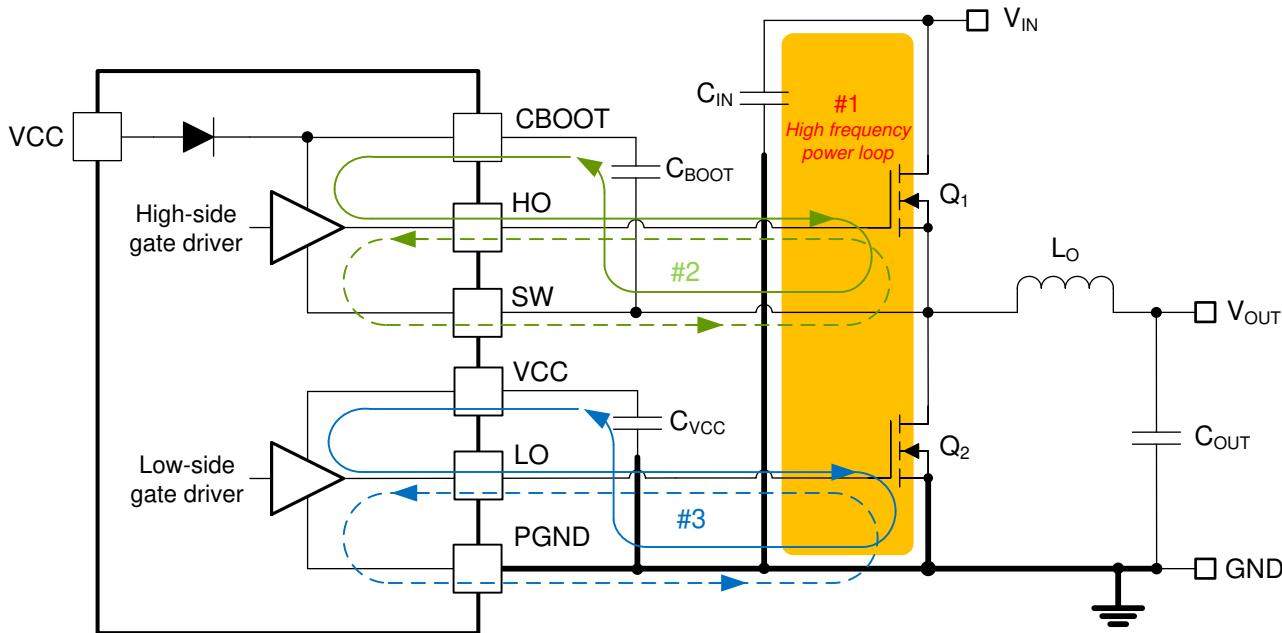

Figure 8-46. DC/DC Regulator Ground System With Power Stage and Gate Drive Circuit Switching Loops
Proper PCB design and layout is important in a high-current, fast-switching circuit (with high current and voltage slew rates) to achieve a robust and reliable design. As expected, certain issues must be considered before designing a PCB layout using the LM5148-Q1. The high-frequency power loop of a buck regulator power stage is denoted by loop 1 in the shaded area of Figure 8-46. The topological architecture of a buck regulator means that particularly high di/dt current flows in the components of loop 1, and reducing the parasitic inductance of this loop by minimizing the effective loop area becomes mandatory. Also important are the gate drive loops of the high-side and low-side MOSFETs, denoted by 2 and 3, respectively, in Figure 8-46.
- Loop 1: The most important loop area to minimize is the path from the input capacitor or capacitors through the high- and low-side MOSFETs, and back to the capacitor or capacitors through the ground connection. Connect the input capacitor or capacitors negative terminal close to the source of the low-side MOSFET (at ground). Similarly, connect the input capacitor or capacitors positive terminal close to the drain of the high-side MOSFET (at V_{IN}). Refer to loop 1 of Figure 8-46.
- The SW pin connects to the switch node of the power conversion stage and acts as the return path for the high-side gate driver. The parasitic inductance inherent to loop 1 in Figure 8-46 and the output capacitance (C_{oss}) of both power MOSFETs form a resonant circuit that induces high frequency (greater than 50 MHz) ringing at the SW node. The voltage peak of this ringing, if not controlled, can be significantly higher than the input voltage. Make sure that the peak ringing amplitude does not exceed the absolute maximum rating limit for the SW pin. In many cases, a series resistor and capacitor snubber network connected from the SW node to GND damps the ringing and decreases the peak amplitude. Provide provisions for snubber network
- Loop 2: high-side MOSFET, Q₁. During the high-side MOSFET turn-on, high current flows from the bootstrap (boot) capacitor through the gate driver and high-side MOSFET, and back to the negative terminal of the boot capacitor through the SW connection. Conversely, to turn off the high-side MOSFET, high current flows from the gate of the high-side MOSFET through the gate driver and SW, and back to the source of the high-side MOSFET through the SW trace. Refer to loop 2 of Figure 8-46.
- Loop 3: low-side MOSFET, Q₂. During the low-side MOSFET turn-on, high current flows from the VCC decoupling capacitor through the gate driver and low-side MOSFET, and back to the negative terminal of the capacitor through ground. Conversely, to turn off the low-side MOSFET, high current flows from the gate of the low-side MOSFET through the gate driver and GND, and back to the source of the low-side MOSFET through ground. Refer to loop 3 of Figure 8-46.